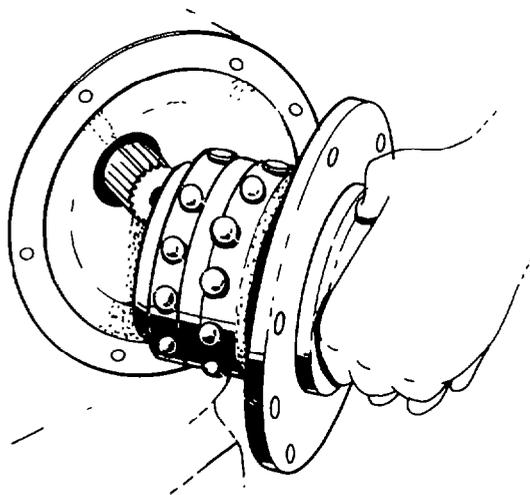

Fig. 270 — Removing Power Divider Cage
- i. Remove the sliding clutch from the power divider cage, then remove the power divider cage from the outer cam (see fig. 270).